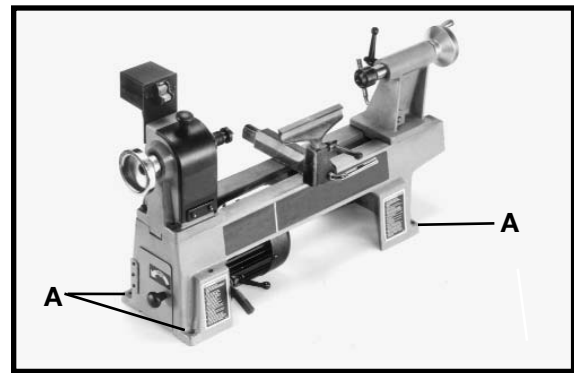

Fig. 16
The wood lathe must be fastened to a supporting surface. Four mounting holes (three of which are shown (A) Fig. 16) are provided in the base of the lathe.